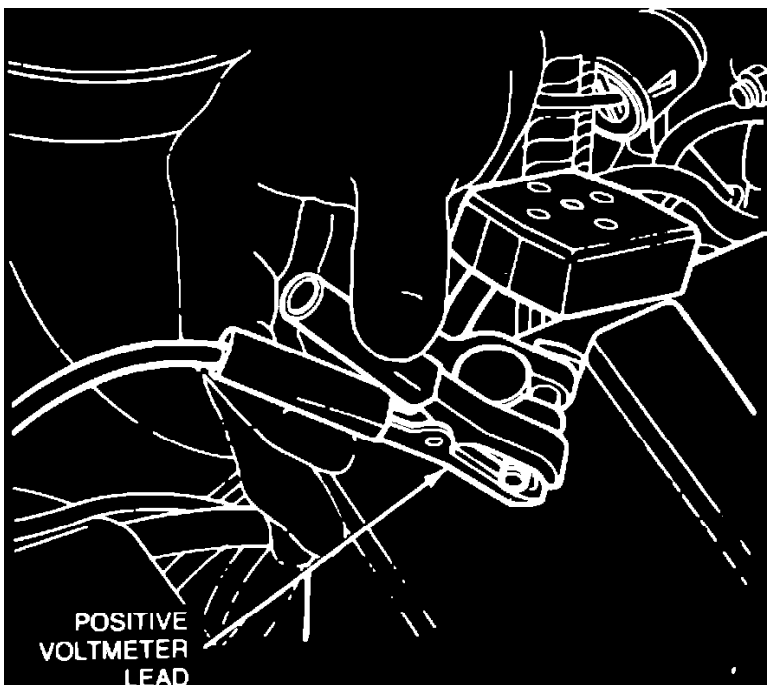

Fig. 20 Clamping positive lead from voltmeter on to battery terminal
3. Clamp positive lead from voltmeter on to positive battery terminal, Fig. 20.